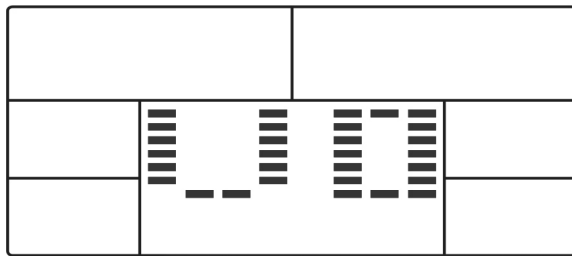
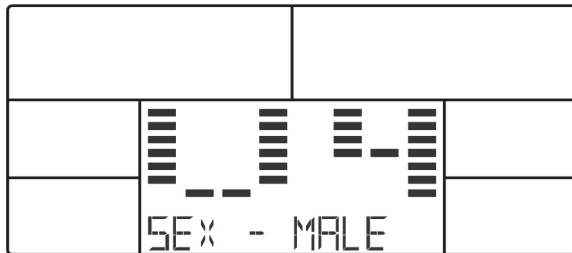

Figure 3
Figure 5
2. With the +/- buttons, the user can select the programs User 0 to 4 and confirm with MODE (figures 3 to 4). Then set the user data SEX, AGE, HEIGHT and WEIGHT. Press +/- to select the corresponding values (figures 5 to 8). Confirm the settings with MODE.